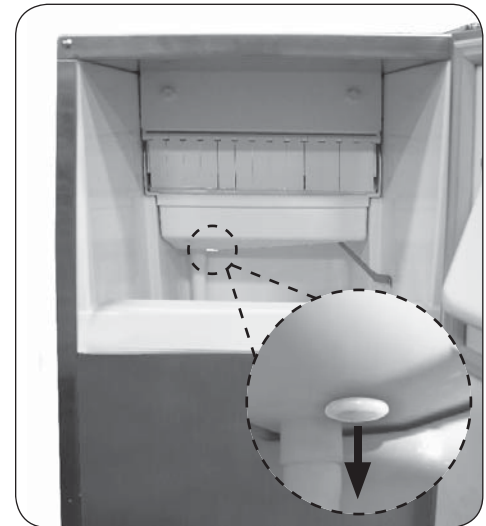

Fig. 13-2 Remove plug
5. Remove the plug from underneath the water container (see Fig. 13-2).